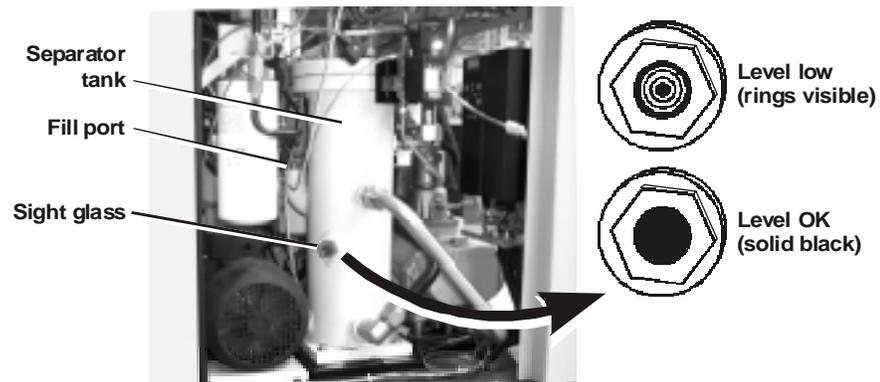

Figure 46. Separator tank fill port
- 3 Add fuel booster coolant through the fill port (Figure 46) until the level reaches the sight glass.